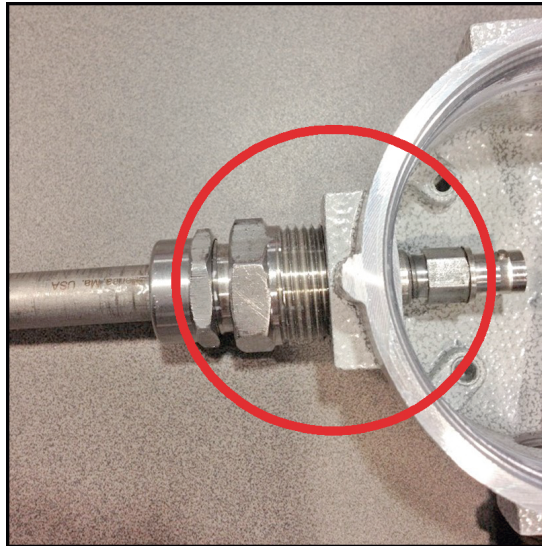

Figure 16: Torquing the NPT Reducer
2. Torque the fitting into one of the 3/4" NPT ports of the junction box with at least 5 threads engaged. After the fitting is torqued into place, ensure that the BNC head of the transducer extends slightly past the ground screw bosses, as shown in Figure 16 below::
3. If the BNC head extends too far into the junction box, it will make the assembly more difficult to install by reducing the amount of area needed to properly store the excess cable. If the BNC head is not positioned approximately where it is pictured in Figure 16 above, loosen the compression fitting and adjust the transducer. Then, re-tighten the compression fitting.